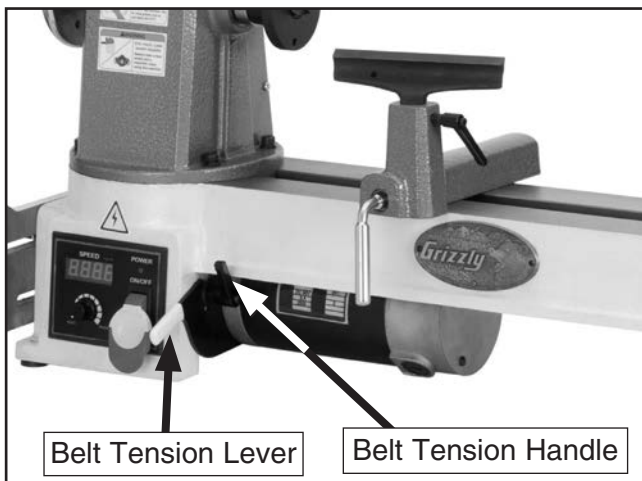

Figure 17. Belt tension lever.
2. Loosen the belt tension screw handle (**Figure 17**). Be sure the belt tension lever moves freely to release tension from the belt.